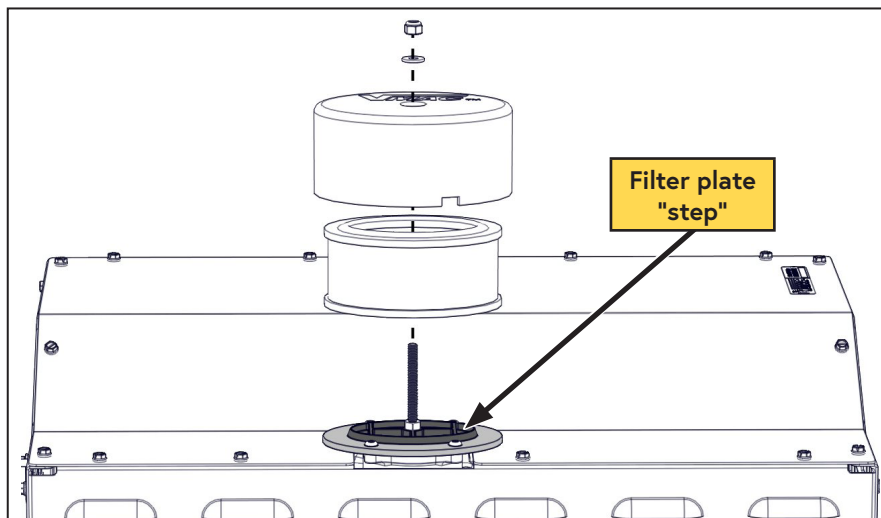

Figure 27 — Install air filter element
- ☐ Ensure the filter element fits over the "step" on the filter plate (Figure 27)